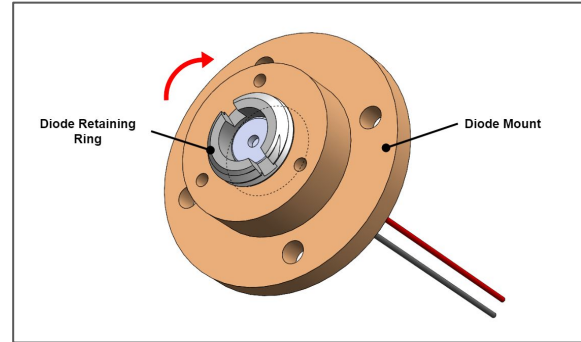

Figure 3. Diode Retaining Ring
Then, insert the Diode Retaining Ring (12) and hand tighten until the diode is secure, as shown in Figure 3. This ensures appropriate heat removal.